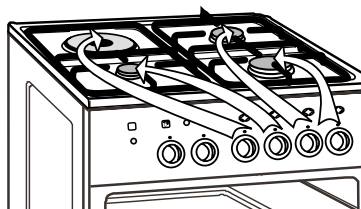

Fig. 7
- Before turning on a burner, make sure the knob you intend to operate corresponds to the burner or a plate you are going to use. Fig. 7 shows which knobs correspond to which burners or hot plates.